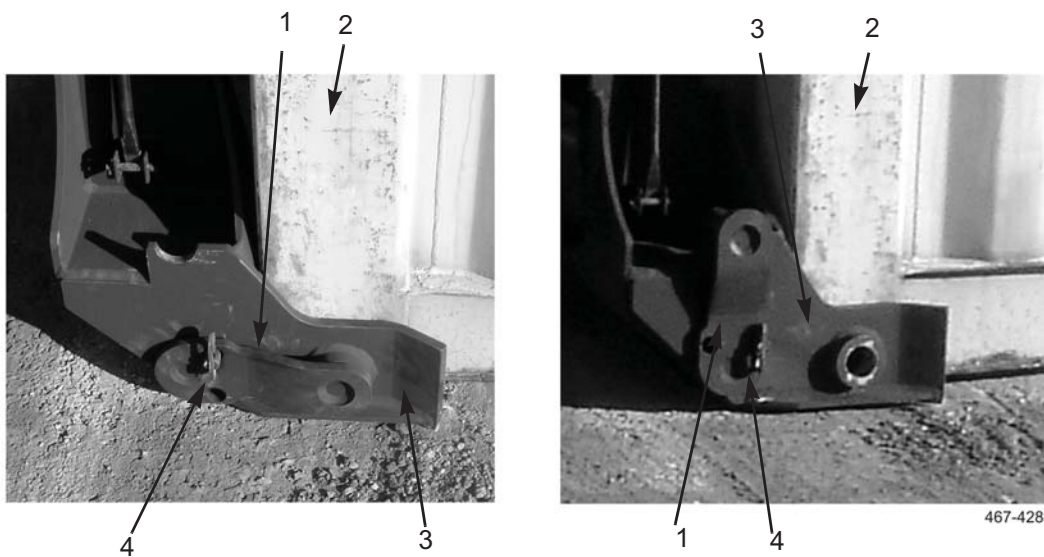

Figure 26. Release Lower Guides.
1. Release anti-loose fastener (Figure 26, Item 4) that secures lower locking plate (Figure 26, Item 1) to container (Figure 26, Item 2).
2. Pull out locking plate (Figure 26, Item 1) and rotate it up 90° to align locking pin with cradle in lower guide (Figure 26, Item 3).
3. Push locking plate (Figure 26, Item 1) in to lower guide (Figure 26, Item 3).
4. Lock anti-loose fastener (Figure 26, Item 4) to hold locking plate in position.